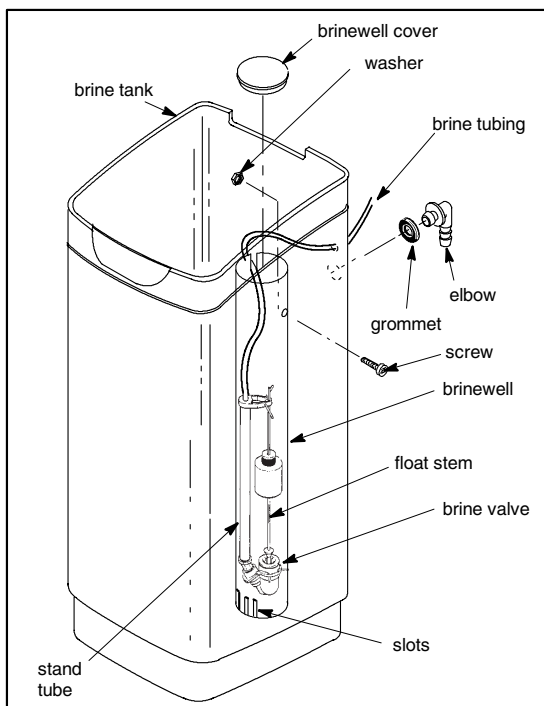

FIG. 2
- Locate the brinewell in position. On the brine tank, locate the slots at the bottom of the brinewell, toward the tank wall, as shown in Figure 2. Then use the screw and washer (in parts bag) to fasten the brinewell in place.
- Lower the brine valve into the brinewell. Push the tubing into the brinewell top slot (Fig. 2) and route it out of the brine tank through the smaller hole in the rear wall of the brine tank.